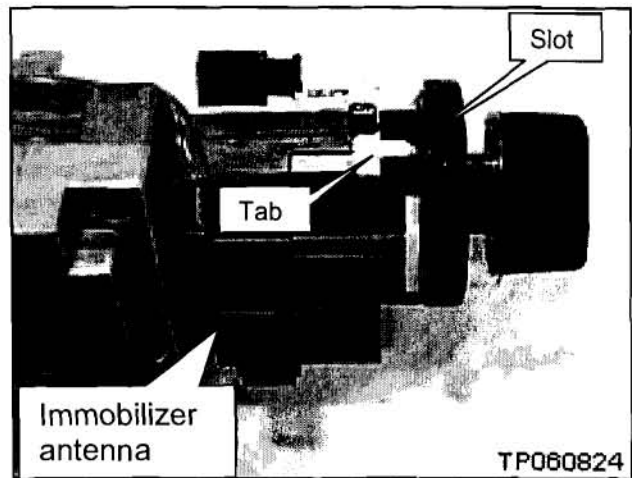

Figure 22
- Make sure the slot is aligned with the tab as shown in Figure 22.